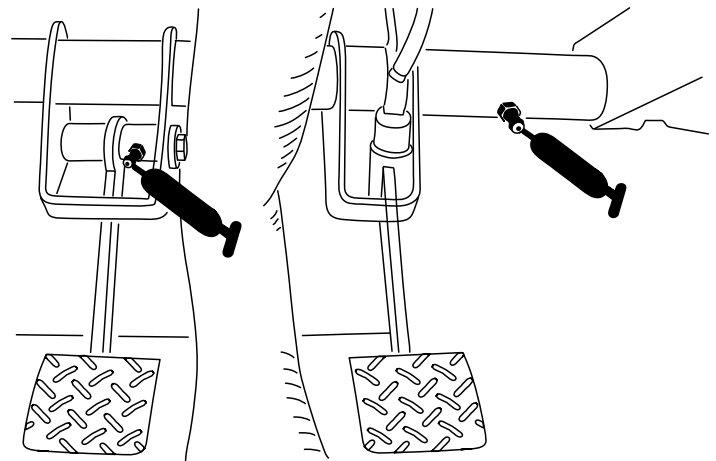

Figure 30
- **Clutch (1);** refer to Figure 30
- **Brake (1);** refer to Figure 30